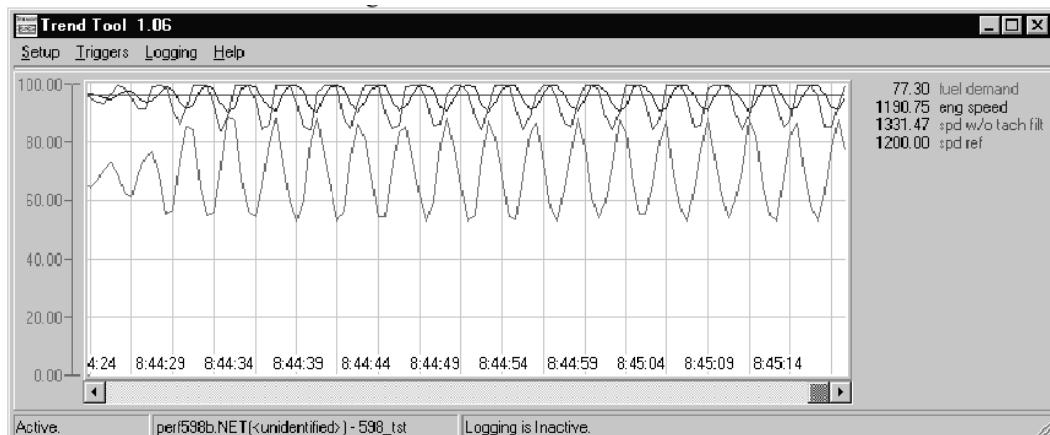

Figure 5-1. Trend Tool Trace Example 1
10. With the engine running at no load, idle speed; increase the gain one click at a time until a sustained speed oscillation is only just obtained. In between clicks, use the actuator bump feature to introduce a very small bump to the system (1% fuel demand, 0.020 seconds works well). The system oscillations will either die out in a short amount of time (stable), stay at the same amplitude for a long time (marginally stable), or keep increasing in amplitude (unstable). To start with, you will most likely be in the stable range, where the oscillations die out with time. As you increase the gain, you will eventually go into the unstable region, where you might need to switch back to 2nd dynamics to get the engine under control. Reduce the gain and switch back to 1st dynamics. Keep slightly adjusting the gain up or down until you find the setting that gives you the point of marginal stability. When you are there, the oscillations will neither decrease nor increase in amplitude. If you can maintain a constant amplitude for 30 seconds to a minute, you have found the point. If the oscillations die out, your gain is too low. If they keep getting bigger, your gain is too high. Adjust if required. The following trace (Figure 5-1) is an example. Write down the Gain setting (5.92 in this example) and call it Ku. This is needed to calculate final settings.